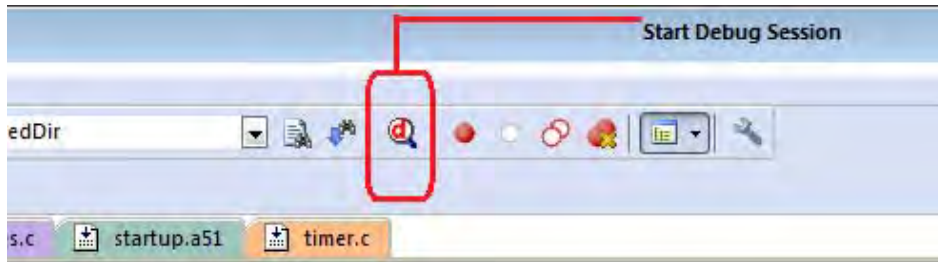
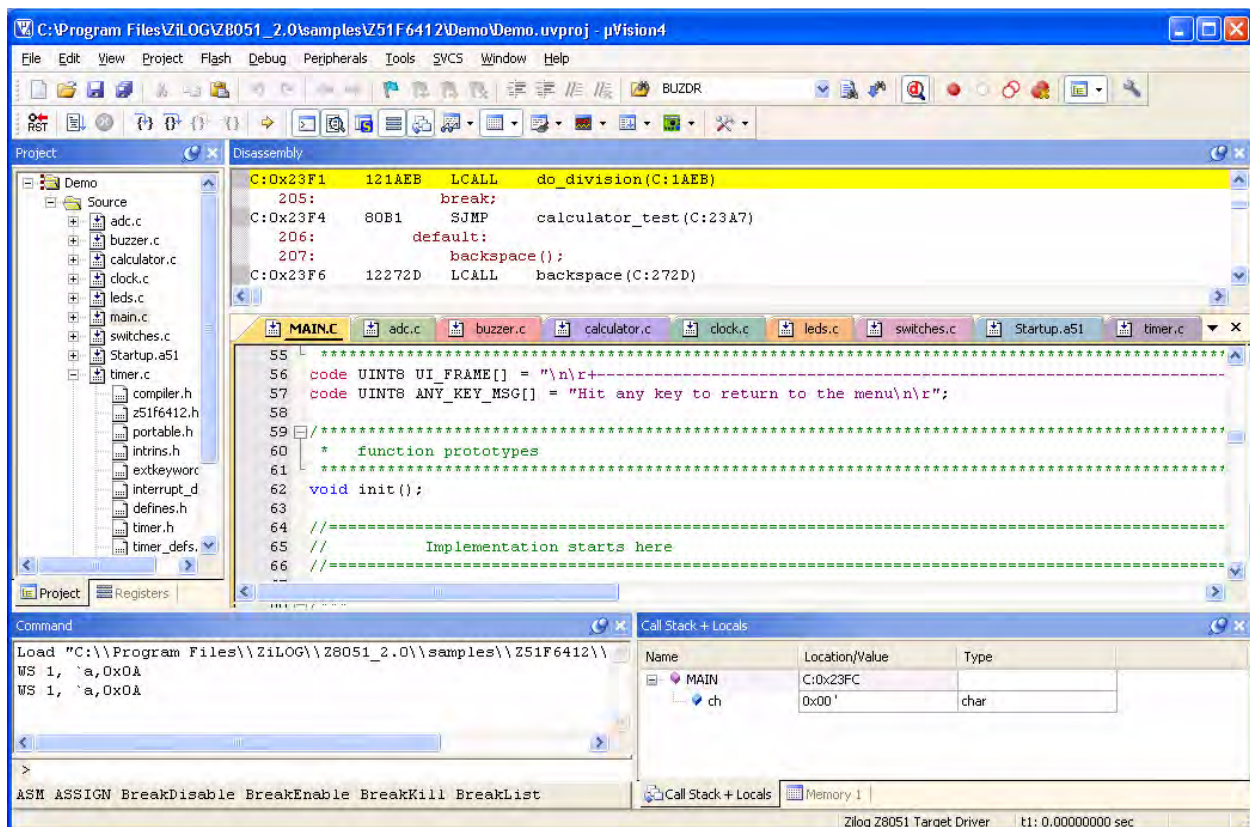

Figure 28. Beginning a Debug Session
Figure 29. A Default Debug Session
13. Start your debugging session by clicking the **Start/Stop Debug Session** icon, as indicated in Figure 28. A default Windows configuration of the debug session is shown in Figure 29.